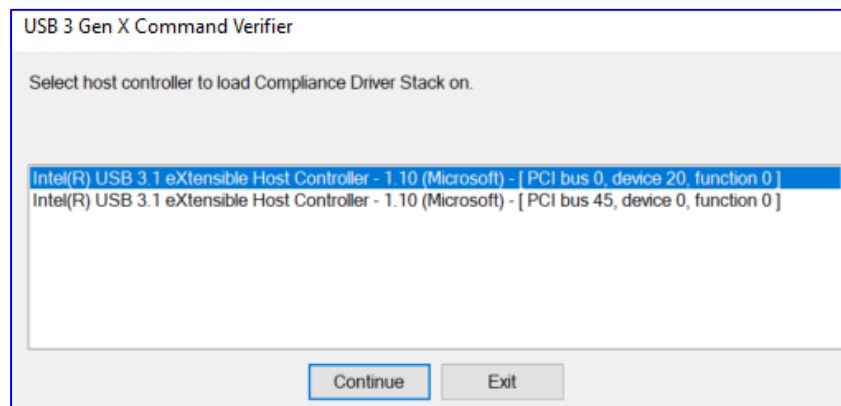

FIGURE 7.1: USER PROMPT TO SELECT HOST CONTROLLER IN CV TOOL
1. Open the USB 3 Gen x CV and the “Command Verifier” pop-up message will appear (Figure 7.1 below). Select the required host controller from the list to load the test stack switch and then select “Continue”. Wait until the stack switch is loaded. Where necessary the user may also need to reboot the golden device if prompted.